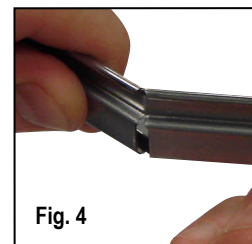

Fig. 4
3. Grip bar on both sides of this notch, and bend the bar in the direction opposite the notch. As this notch spreads open, the bar will break along the score line. (Fig. 4)